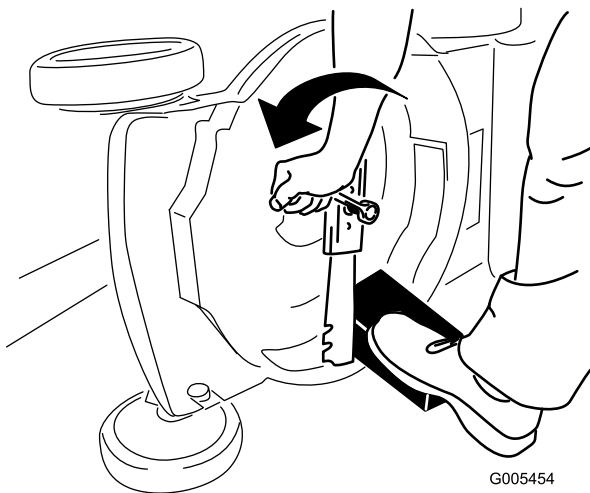

Figure 35
3. Use a block of wood to hold the blade steady (Figure 35).